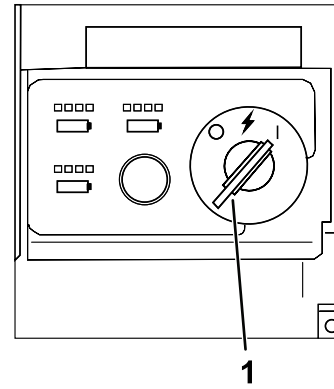

Figure 13
4. Turn the key to the ON position to turn on the machine (Figure 13).